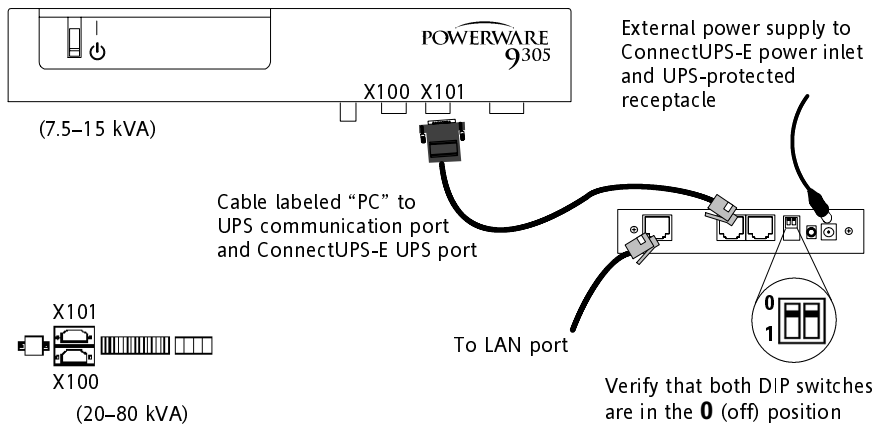

Figure 5. Alternate Installation with a Powerware 9305 UPS
4. **If the X100 port is not available**, use the supplied serial cable labeled “PC” to connect the UPS port on the ConnectUPS-E to the male, 9-pin, RS-232 port (labeled X101) on the UPS (see Figure 5).